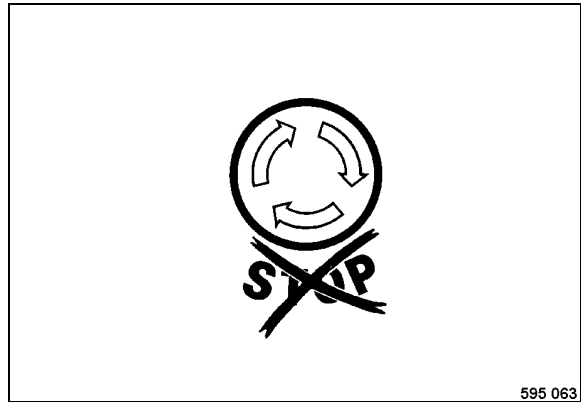

Fig. 55
- Check, whether the emergency stop switch (Fig. 55) is unlocked.